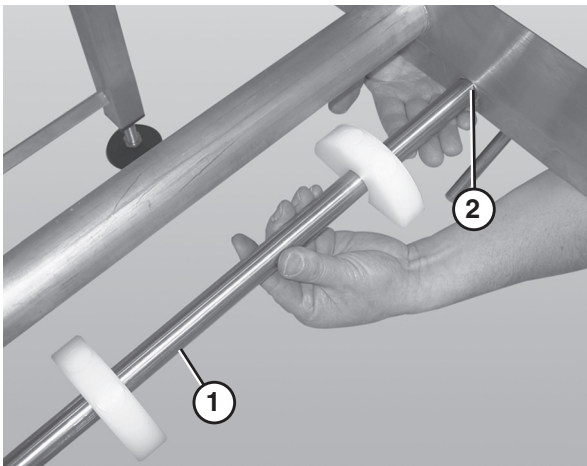

Figure 35
2. Slide the return shaft (Figure 35, item 1) up and through the large slot (Figure 35, item 2) in the frame (picture shown without the belt or wear strips).
3. Push up on the return shaft (Figure 35, item 1) and slide the notched end of the shaft through the small slot on the opposite side of the frame.